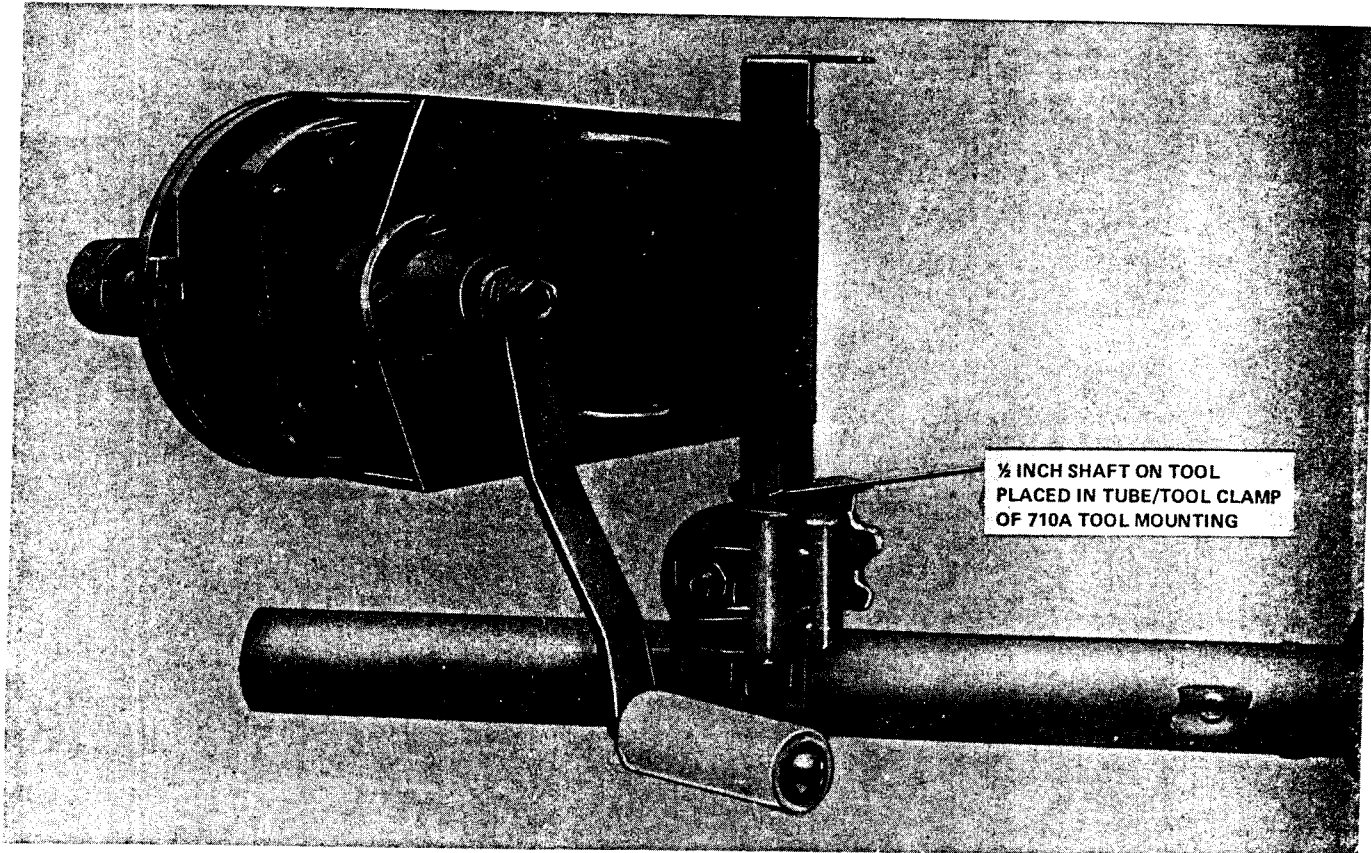

Fig. 2—849A Sealing Washer Cutter Mounted on 710A Tool Mounting
- 3.01 Install the 849A Sealing Washer Cutter as shown in Fig. 2, 3, 4, or 5.